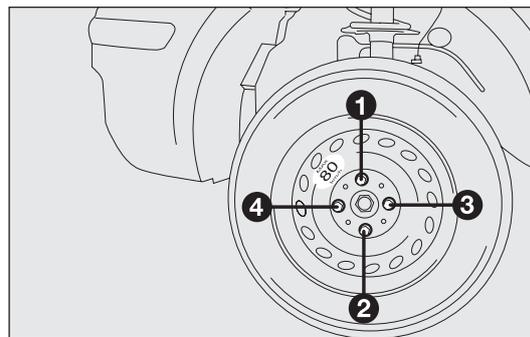

fig. 149
- ❑ use the wrench provided to fasten the bolts completely in a criss-cross fashion as per the order illustrated in fig. 149;